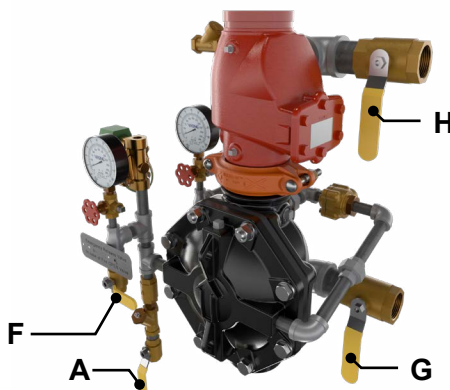

Figure 4: Placing the System in Service
To take system out of service (Refer to Figure 4):
- Verify that the main water supply control valve is open and that all other valves are in their normal operating position and appropriately secured. (refer to Figure 4)